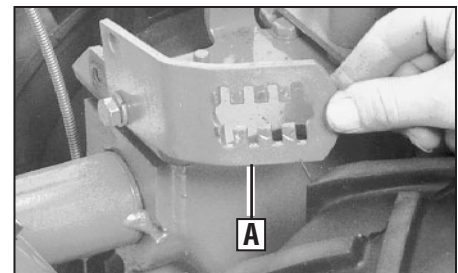
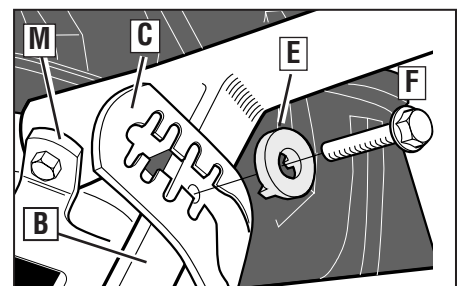
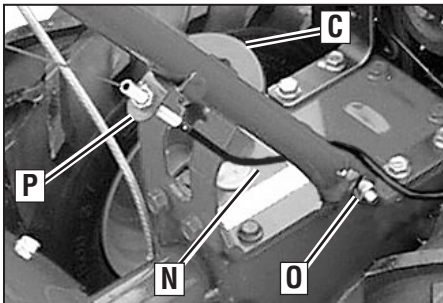

Figure 2-2: On electric start units, move height adjustment bracket aside.
Figure 2-3: Forward clutch control cable not shown for clarity.
Figure 2-4: Attach handlebars.
height adjustment bracket (A, Figure 2-2), loosen the second screw, and swing the bracket to one side.
3. Gently lift handlebar (do not overstretch attached cable) and place handlebar cross-brace (B, Figure 2-3) in front of curved height adjustment bracket (C).
4. With the forward clutch cable (N, Figure 2-4) on the inside of handlebar, position the handlebar ends on the outside of the two mounting tabs (M, Figure 2-3) on the transmission top cover.
NOTE: The curved handlebar height adjustment bracket appears as shown in C, Figure 2-3 for non-electric start units. For electric start units, the bracket is loosened and moved to one side.
5. Loosely attach the handlebars to the mounting tabs with two 3/8-16 x 1" screws (heads of screws go to inside of tabs), 3/8" flat washers and 3/8"-16 lock nuts (O, Figure 2-4).
6. On electric start units, reattach the height adjustment bracket (A, Figure 2-2). Tighten both screws securely. Make sure the handlebar cross-brace (B, Figure 2-3) is under the bracket.
7. Move the handlebars up or down to align the threaded hole in the cross-brace with one of the four slots in the curved height adjustment bracket. Place the keyed washer (E, Figure 2-3) on the flange head height adjustment screw (F) with the raised keys (edges) of the washer facing down.
8. Thread the height adjustment screw (F, Figure 2-3) into the hole in the handlebar cross-brace, making sure that the raised keys on the washer fit into the slot on the height adjustment bracket. Tighten the height adjustment screw securely. Next, securely tighten the two screws and nuts in the ends of the handlebar (M, Figure 2-3).